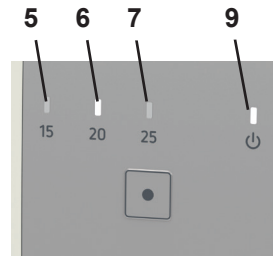

Fig. 4
- ◆ The green operating indicator (9, Fig. 4) flashes quickly.
- ◆ The yellow indicator for the defined threshold value lights up (5, 6, 7, Fig. 4).
- ◆ The green operating indicator (9, Fig. 4) lights up.
If the SILENT flow sensor detects a flow rate at the suction point, the green operating indicator flashes slowly (9, Fig. 4).
As long as the flow rate is higher than the defined threshold value, the corresponding indicator remains lit up (5, 6, 7, Fig. 4)